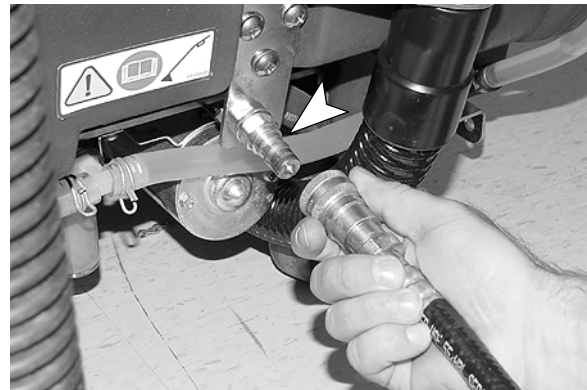

FIG. 47
1. Connect bleeder hose to the accessory tool solution hose coupler (Figure 47).